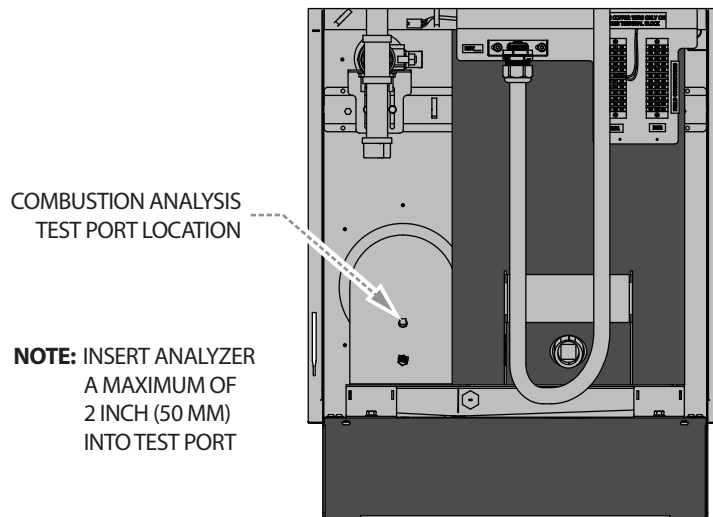

FIGURE 23 - COMBUSTION ANALYSIS TEST PORT LOCATION
1. Prepare a printed or digital copy of the appropriate form. Use the **Installation & Operation "Start-Up" Report (I&O)** when commissioning new equipment, and the **Annual Maintenance Checklist (MX)** for maintenance.
6. Verify the combustion analyzer is within calibration, inserted into the correct location shown in **Figure 23**, and set to the proper fuel type. Insert the combustion analyzer a maximum of 2" (50 mm) into the test port. If inserted too far you may witness unstable O2% readings on the analyzer at lower modulation rates.